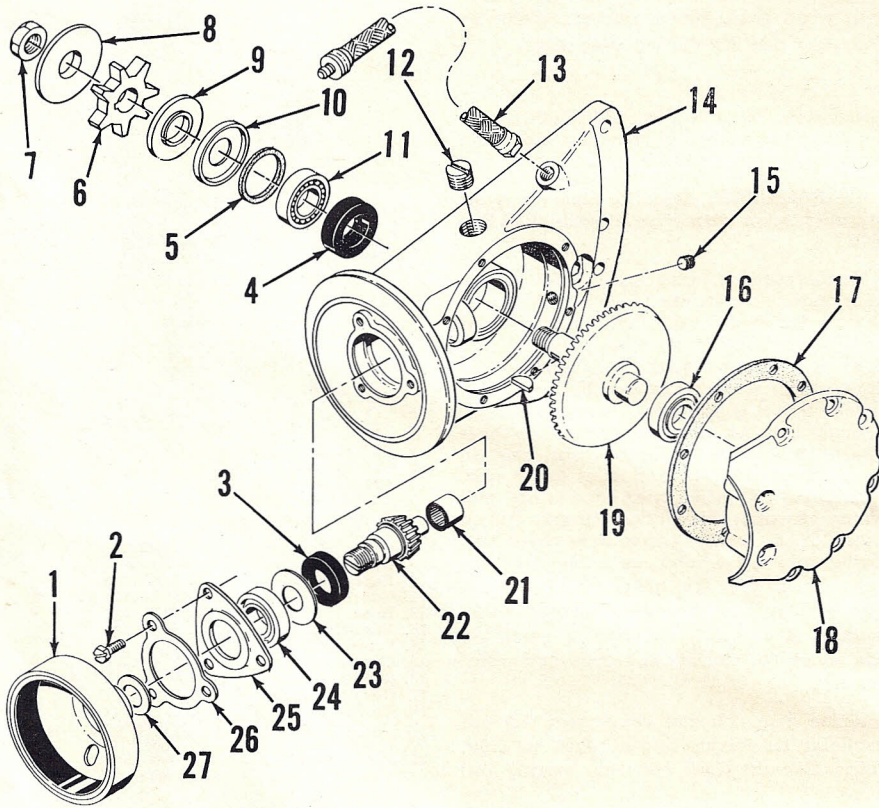

Fig. MC99 — Exploded view of transmission unit.
**TRANSMISSION.** Refer to exploded view of transmission (gear case assembly) in Fig. MC99.
To disassemble transmission unit, remove from engine as shown in Fig. MC95, refer to exploded view in Fig. MC99 and proceed as follows: Remove oil filler plug (12) and drain all oil from gear case. Remove the three pinion retaining screws (2) by turning clutch drum (1) to gain access to screws through hole in drum. Remove the cover (18) retaining screws. Place gear case in oven, cover side up, and heat to approximately 200° F. While gear case is hot, pull pinion assembly by pulling straight out on clutch drum. Remove gear case cover (18), taking care not to damage shims (17). Remove bevel gear (19) after removing chain sprocket (6). If necessary to remove needle bearing (21) or ball bearings (11 and 16), this should be done while case and cover are hot.